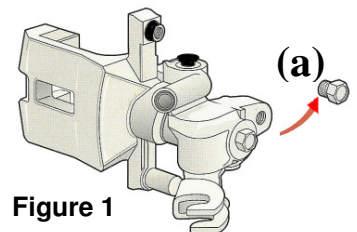

Figure 1
- ✓ Remove screw plug (a) – see **Fig. 1**